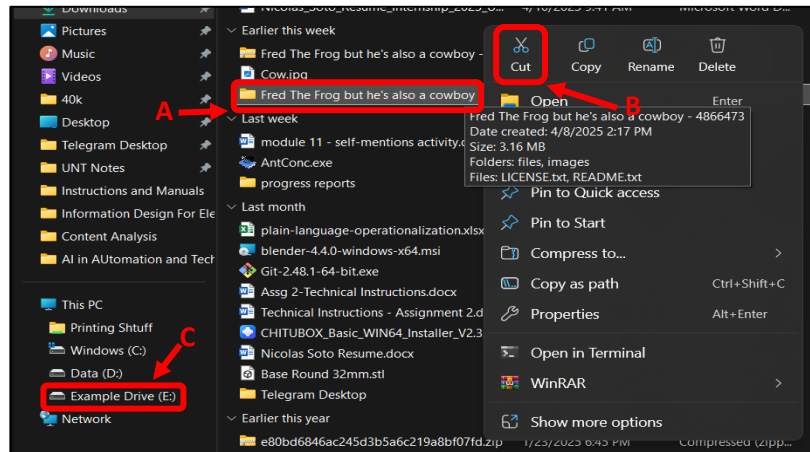

Figure 11: Initiate moving the extracted folder.
(Figure 11 – A)
3) Select Cut. (Figure 11 – B)
(Figure 11 – C)